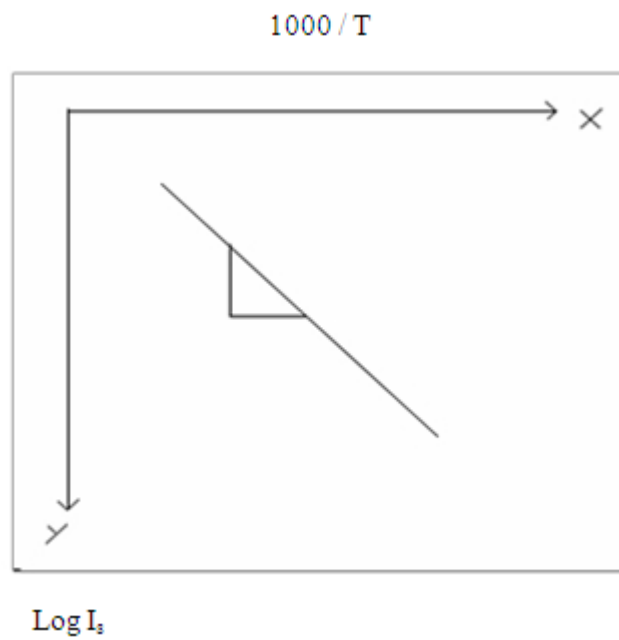

Fig1.2. Variation of current with inverse temperature in a reverse biased pn -diode
- A graph is plotted taking  $1000/T$  along x axis and  $\log I_s$  along negative y axis (Fig.1.2), (Since  $I_s$  in the order of micro-ampere,  $\log I_s$  value will come in negative).